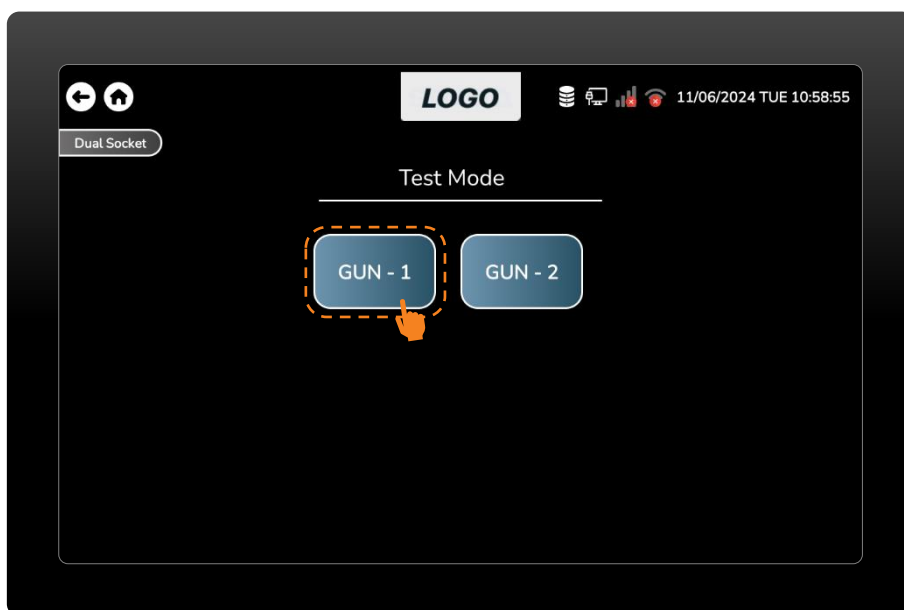

Figure 22 Press the GUN-1 option.
- Press the GUN-1 option from the test mode screen. (Figure 22)